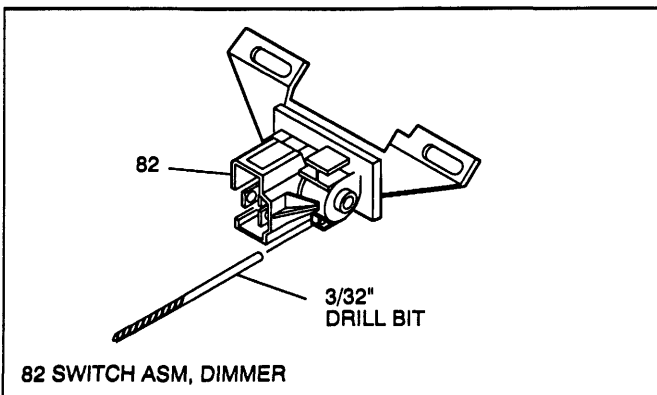

Figure 28 - Adjusting Dimmer Switch
- Dimmer switch (82). (See Figure 28)
- B. Position switch on column and push against dimmer switch rod (77) to remove all lash.